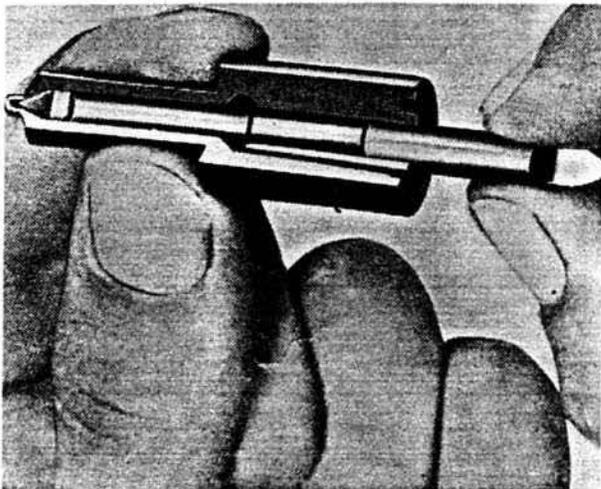

Fig. 57. Cleaning the nozzle seat
6. Clean the nozzle seat with a seat reamer, Fig. 57.